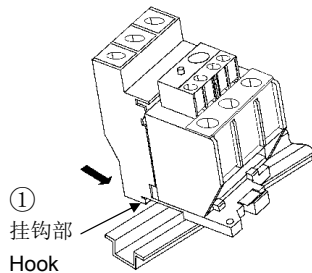
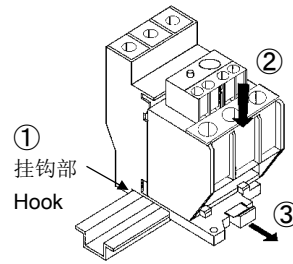

Fig.4
Fig.5
- (1) 导轨安装 (Fig. 4, Fig. 5)
- 安装时请把电源侧的单独安装单元的挂钩部①挂上导轨后，沿②的方向插入。
- 拆卸时，将滑块③拉出的同时即可拆下。
- (2) 螺钉安装
- (1) Rail mounting (Fig.4, Fig.5)
- Hang the power-supply-side hook ① of the separate mounting unit on the rail, and push to the direction ② to fit it on the rail.
- For removal, operate while pulling out the slider ③.
- (2) Screw mounting